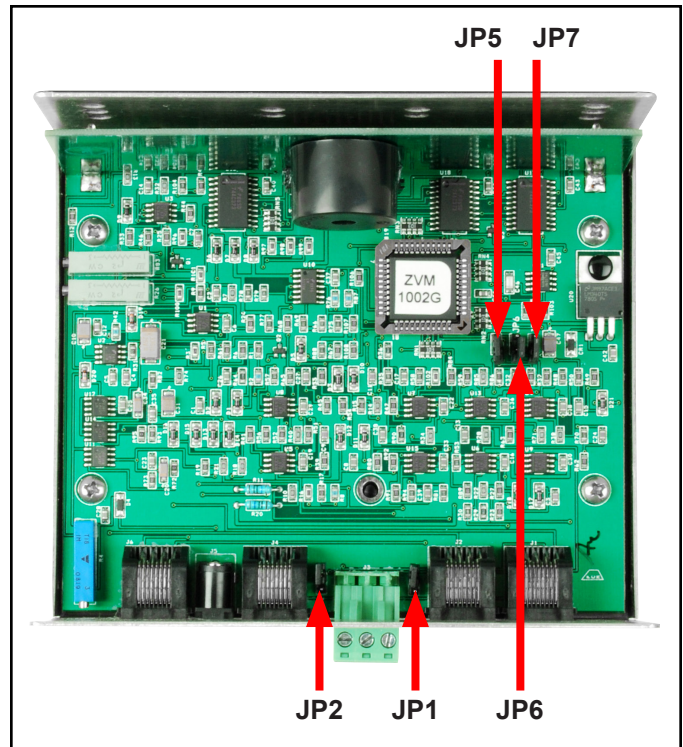

Figure 5. Jumper locations
1. If the desired resistance is 3.5M, jumpers JP1 (MAT 1 and JP2 (MAT 2) need to be on one pin (see Figure 5).
1. If the desired resistance is 10k - 3.5M, jumpers JP1 (MAT 1) and JP2 (MAT 2) need to be on one pin (see Figure 5).
1. If the desired resistance is < 1k, jumpers JP1 (MAT 1) and JP2 (MAT 2) need to be on both pins (see Figure 5).